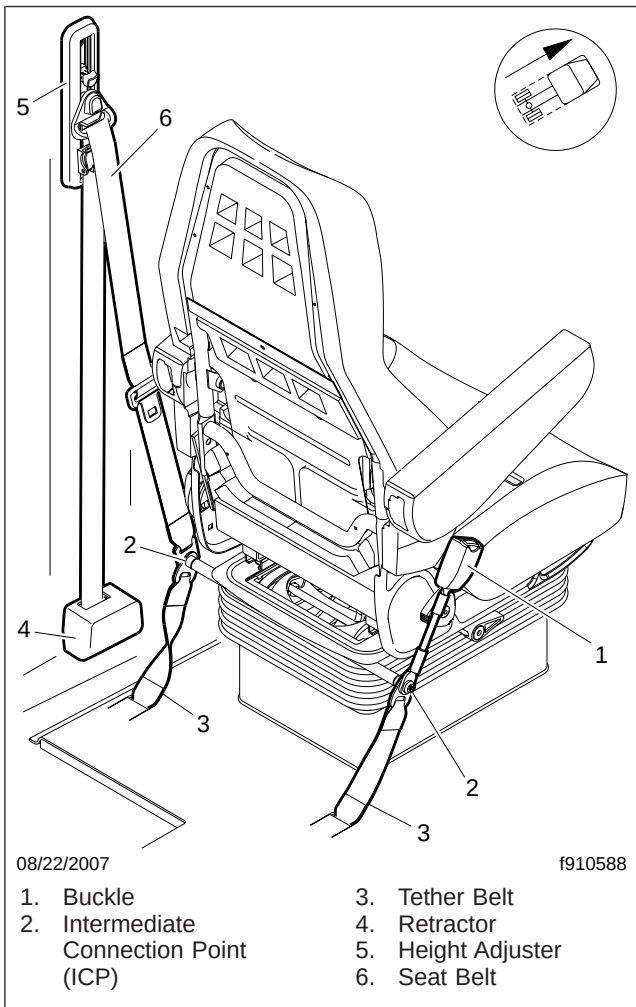

Fig. 3, Seat Belt Installation, Air Suspension Seats
2. Attach the seat belt and tether belts to the intermediate-connection-point (ICP) bar; see Fig. 3. Tighten the Torx screws 35 to 50 lbf·ft (48 to 68 N·m).